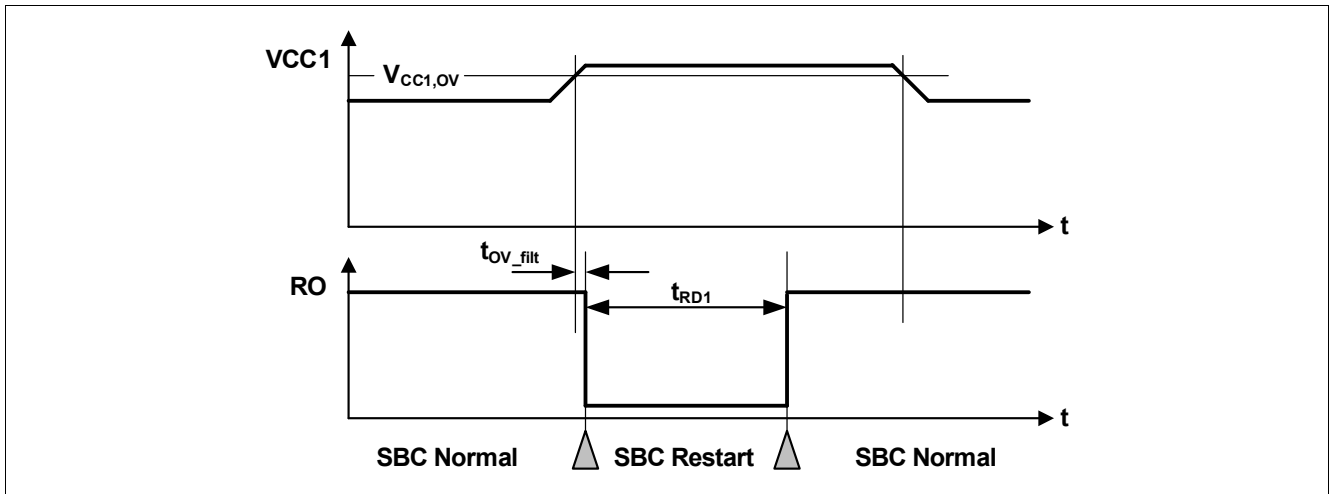

Figure 41 VCC1 Over Voltage Timing Diagram
- If the bit **VCC1_OV_RST** is set and **CFGFP** = '1', then SBC Restart Mode is entered. The FOx outputs are activated. After the reset delay time (t_{RD1}), the SBC Restart Mode is left and SBC Normal Mode is resumed even if the VCC1 over voltage event is still present (see also Figure 41). The **VCC1_OV_RST** bit is cleared automatically;